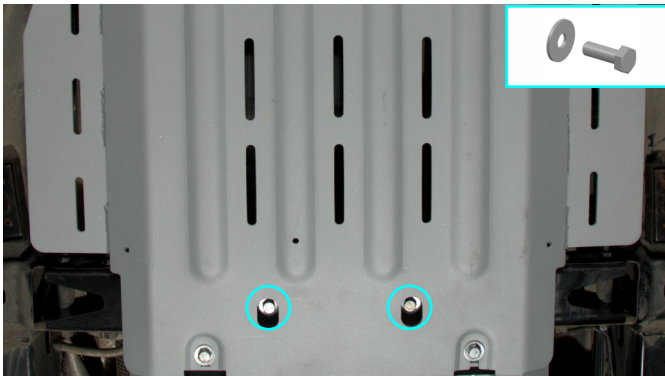

Fig. 9
9. Loosely insert supplied bolts M10x30 with flat washers M10 (items C, E) to rear bracket of RIVAL transmission skid plate (fig.9).